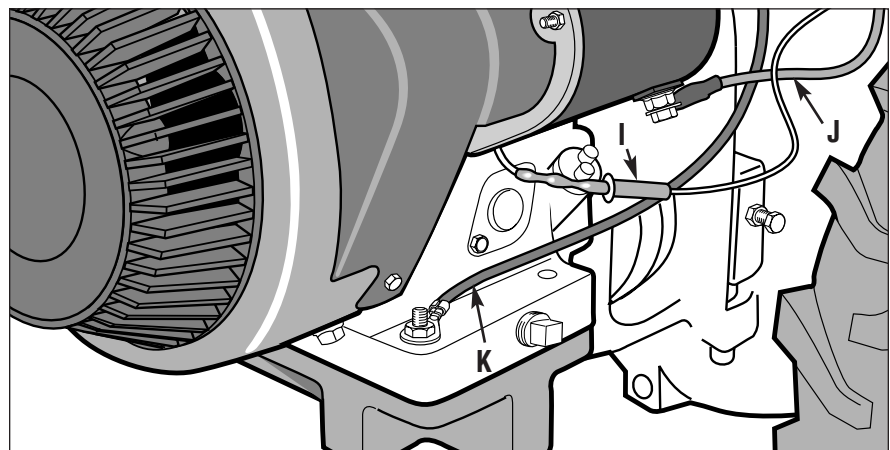

Fig. 9
- d. A red recharging wire with plastic terminals (I, Fig. 9) leads from the solenoid to behind the starter motor. Disconnect the terminals by spreading apart the two tabs on the larger terminal. Move the wire off to the left side of the tiller.
- e. Disconnect the starter motor cable (J, Fig. 9) from the stud on the starter motor. Replace the mounting hardware on the stud.
- f. Disconnect the ignition ground cable (K, Fig. 9) from the stud on the side of the engine. Replace the mounting hardware on the stud.
- b.) Reconnect the plastic terminals (I, Fig. 9) on the red recharging line.
- c. Reconnect the starter motor cable (J, Fig. 9).
- d. Reconnect the ignition ground cable (K, Fig. 9).